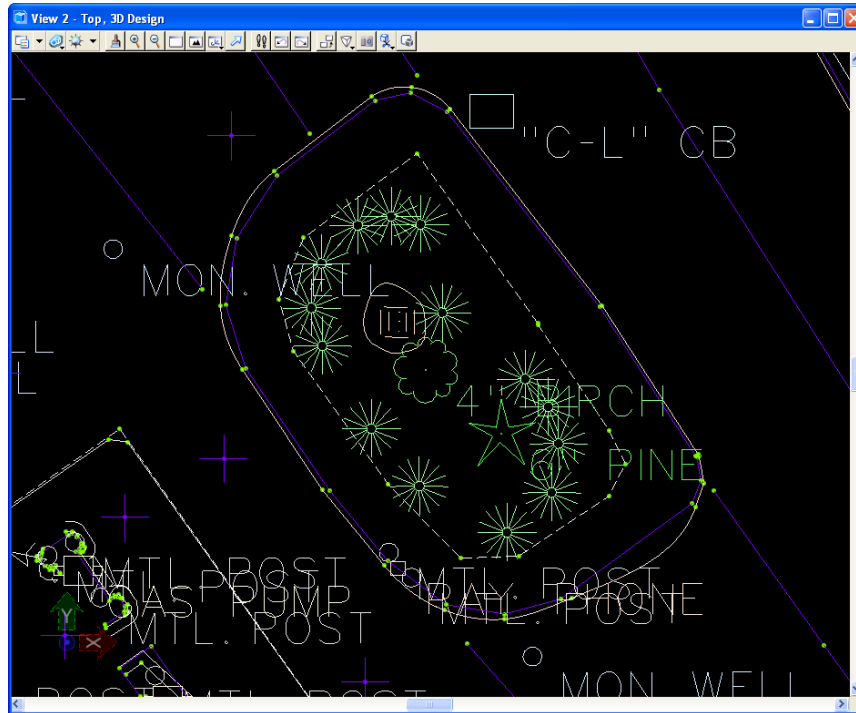

Figure 3-14 MicroStation View
- A. From the InRoads main menu bar select **Survey > Find Point in View**. Enter Point Name: **211** and Radius: **12**, Click **Apply**. The MicroStation view shown in Figure 3-14 will appear.